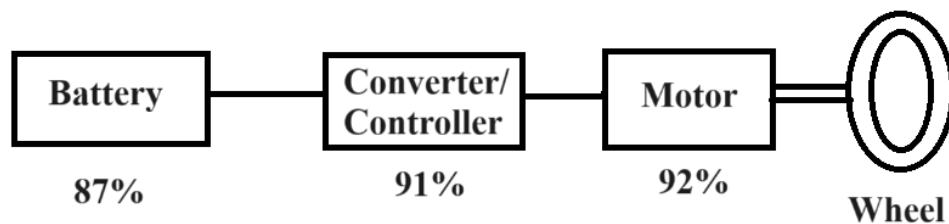

Figure 2: Efficiencies of BEV components
- 3C.** The components and efficiencies of a battery electric vehicle is given in figure 2.